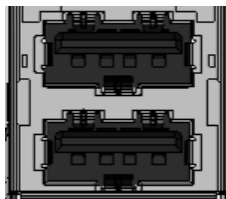

Figure 3-32: Ethernet and USB 2.0 Connector
- CN Location:** See Figure 3-32